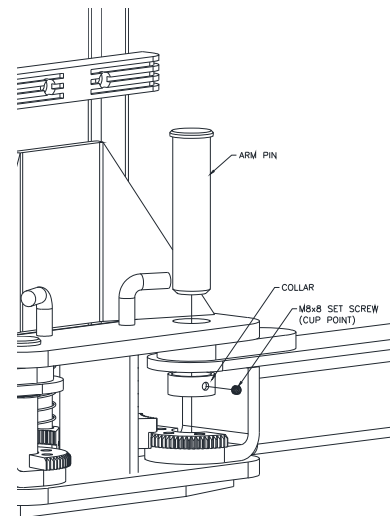

Fig. 11 –Arm Install
- 31) Lubricate the arm pin or carriage arm pin hole with “anti-seize” and install the arms as shown in **Fig. 11**. Once the set screw is finger tight against the arm pin, tighten ¼ turn with allen wrench.